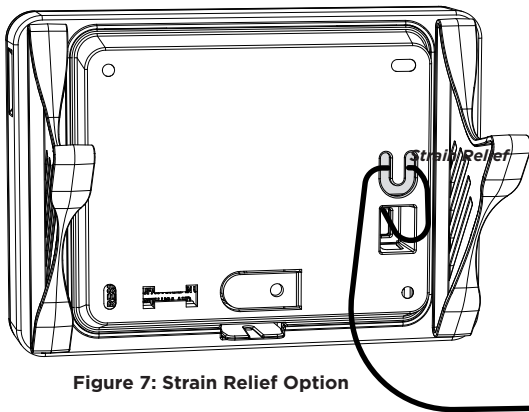

Figure 7: Strain Relief Option
3. Plug the power supply into an outlet. See Figure 7.